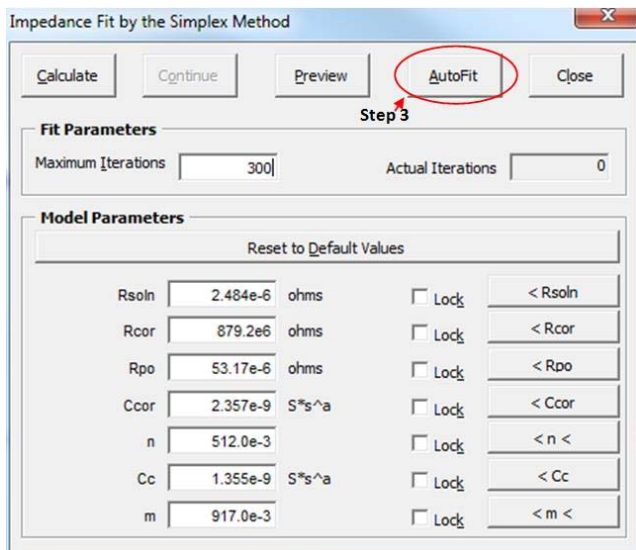

Figure 8: Impedance Fit window showing model parameters. Leave the parameters unlocked and select 'AutoFit'
3. After selecting an appropriate model an Impedance Fit window will appear. This allows the user to enter and lock certain known values (such as solution resistance). If no parameters are known it is best to leave all parameters unlocked and use the 'AutoFit' to get parameters. 'Calculate' attempts a fit using the initial parameter values entered for each component. AutoFit will generally yield the best fit on the first try, while calculate will need to be rerun several times. See **figure 8**.